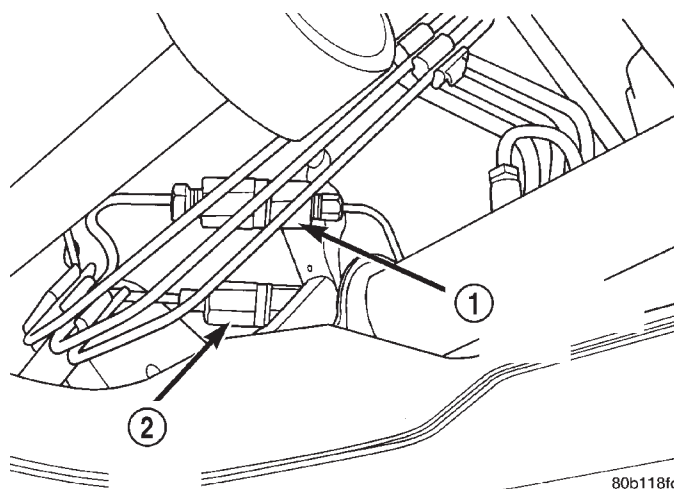

Fig. 21 Non-ABS Brake Proportioning Valve Location
One proportioning valve controls the right rear brake, and the other proportioning valve controls the left rear brake (Fig. 21). Therefore, a road test to determine which rear brake slides first is essential. Once the wheel which slides first is determined, use the following procedure to diagnose the proportioning valve.
(1) Road test the vehicle. Determine which rear wheel exhibits premature rear wheel skid, then refer to the figure (Fig. 21) to determine which proportioning valve needs to be tested.
(2) Remove hydraulic brake line (Fig. 21) from proportioning valve controlling the rear wheel of the vehicle which has premature wheel skid.
(3) Remove the proportioning valve from the rear brake chassis tube.